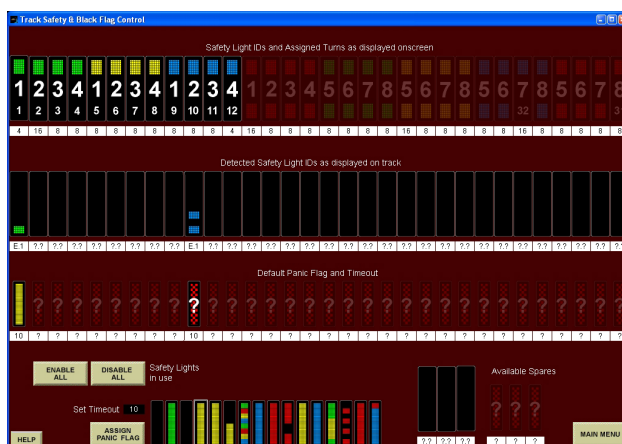

Figure 8 - Config Lights Screen
Up to 32 safety lights can be enabled by the program and up to 3 spares safety lights can be made available to be swapped into service or added to the already enabled safety lights as shown in Figure 8. When this screen is displayed, the program polls the track for all active TSL IDs and spare TSL IDs. All active TSLs on track display their ID code as one of four colors (red, green, blue, or yellow) and a number of illuminated segments (1, 2, 3, etc).
**TIMEOUTS and PANIC FLAGS** - When an TSL responds, its on track ID is loaded below the corresponding onscreen ID as well as its Revision level, configured Timeout parameter and configured Panic Flag as shown in Figure 8. A Panic Flag will be displayed on an TSL if there is a complete breakdown in communications with the tower or an electrical failure occurs with the TSL. This is a safety backup function to continue to insure the correct flag is displayed by each safety light on the track.
In Figure 8, ID Green 1 is configured to change to an all yellow flag if there is a communications breakdown or it is unable to communicate with the tower for 10 seconds. In the case of ID Blue 2, the Panic Flag configured in the safety light does not match any of the configured flags being utilized by the software and a question mark displays. To change the Panic Flag and/or Timeout, select a Default Panic Flag at the bottom of the screen and enter the number of seconds in the Timeout field, then click ASSIGN PANIC FLAG. A value of 0 seconds disables this function.